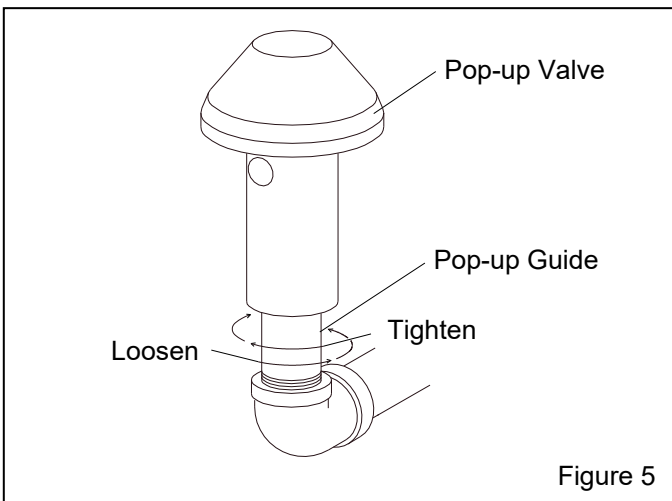

Figure 5
5.7. Replacing the Pop-Up Valve, Figure 5